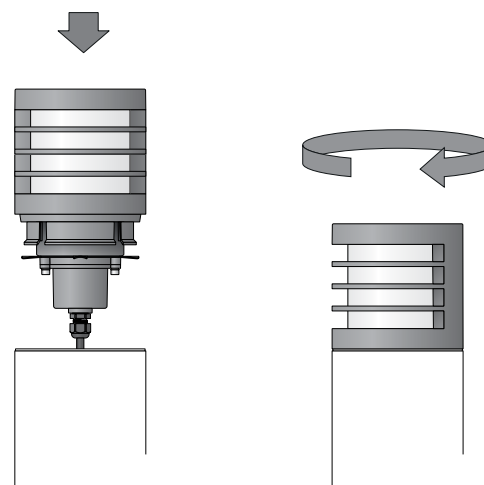

Figure 1
3. Insert bollard head into bollard tube and turn clockwise as far as it will go (Figure 1).